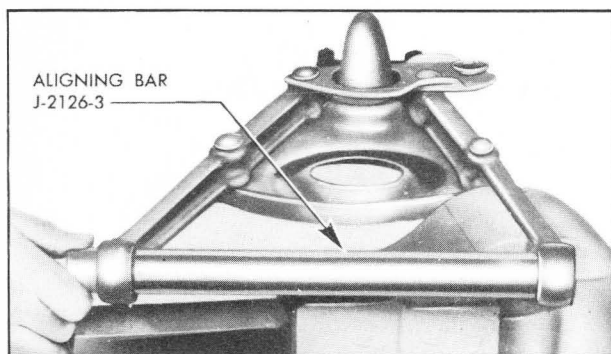
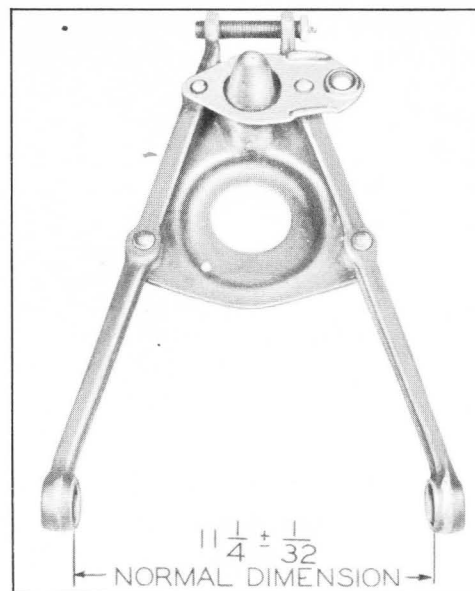

Figure 6-21—Checking Alignment of Control Arm Inner Ends
Figure 6-22—Correct Spacing of Control Arm Inner Ends
3. Use Aligning Bar J 2126-3 to check alignment of inner ends of control arm. See figure 6-21. If the ends are not in alignment use a piece of pipe over the bar to obtain more leverage and bend arms until aligning bar enters both ends freely. Distance between inner ends of arm should be  $11\frac{1}{4}$ " plus or minus  $\frac{1}{32}$ ", from inside to inside. See figure 6-22.